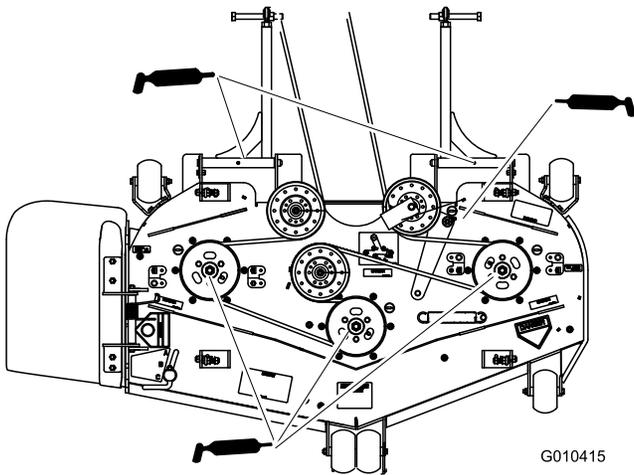

Figure 35
4. Grease the three spindle bearings under the pulleys until grease comes out the lower seals (Figure 35).
5. Grease the idler arm on the mower deck (Figure 35).
6. Grease the fittings on the push arms (Figure 35).